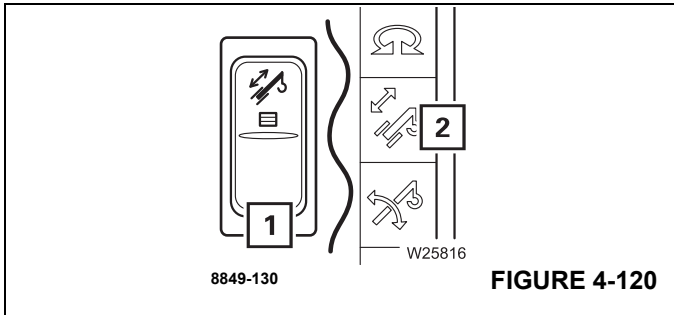

FIGURE 4-120
- Press the button (1), (Figure 4-120) once.
- The lamp in the button (1) will light up dimly.
- The symbol (2) is red if the telescoping mechanism is switched off.